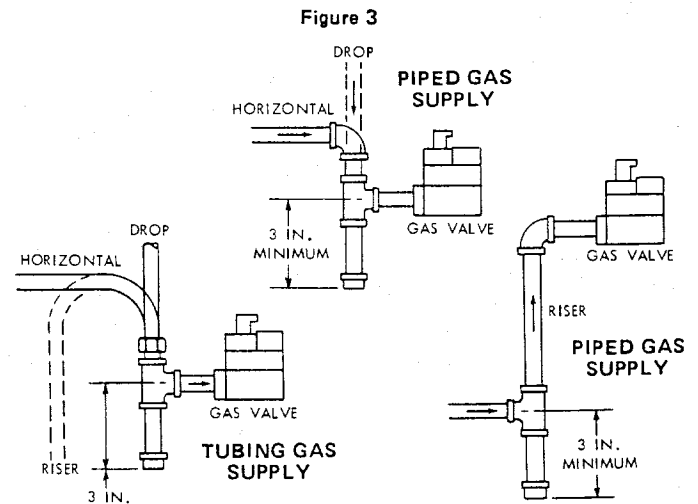

Figure 4
7. Install a sediment trap in the gas supply line to the gas control if not currently provided. (Fig. 4)
All piping must comply with local codes and ordinances or the National Fuel Gas Code (ANSI Z223.1 and NFPA No. 54). If copper tubing is to be used, obtain a tube-to-pipe coupling. A sediment trap or drip leg (Fig. 4) must be installed in the supply line to the controls in all gas appliance piping.